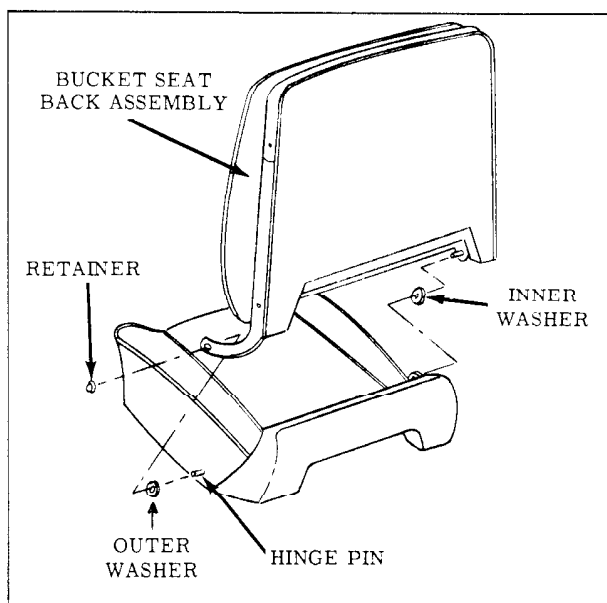

Fig. 15-49 Bucket Seat Back Removal
4. To install, reverse removal procedure. Prior to installation of back assembly, be sure inner and outer washers are installed over the hinge pin. (Fig. 15-49)